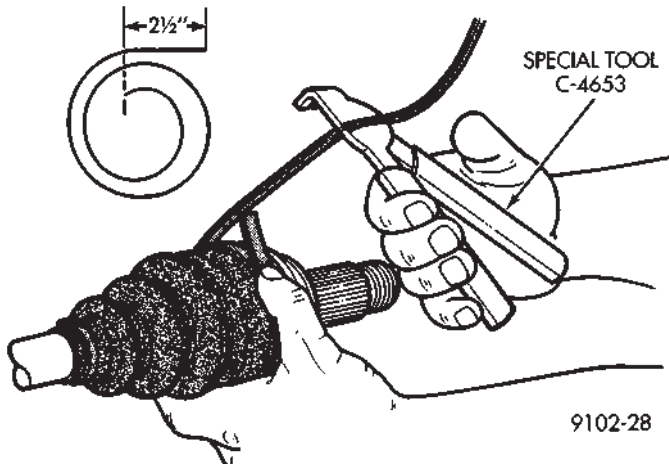

Fig. 2 Measure & Cut Binding Strap
- (4) Wrap binding strap around boot **twice**, PLUS 63 mm (2-1/2 inches) (Fig. 2).